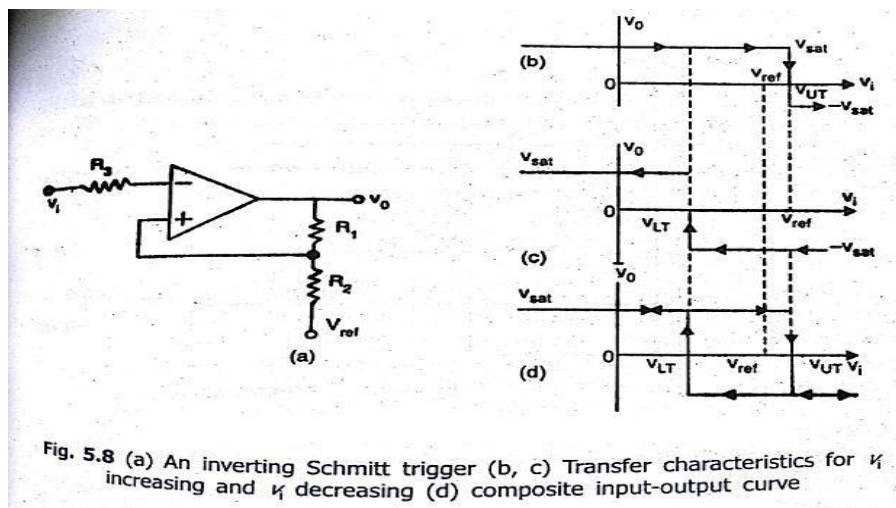

Fig. 5.8 (a) An inverting Schmitt trigger (b, c) Transfer characteristics for V_i increasing and V_i decreasing (d) composite input-output curve
- Figure 5.8 (a) shows a regenerative comparator. The circuit is also known as Schmitt trigger
- As long as V_i is less than V_{ut} , the output V_o remains constant at $+V_{sat}$. When V_i is just greater than V_{ut} , the output regeneratively switches to $-V_{sat}$ and remains at this level as long as $V_i > V_{ut}$ as shown in Figure 5.8 (b).
- The input voltage V_i must become lesser than V_{lt} in order to cause V_o to switch from $-V_{sat}$ to $+V_{sat}$. A regenerative transition takes place as shown in Figure 5.8(c) and the output V_o returns from $-V_{sat}$ to $+V_{sat}$ almost instantaneously.
- The complete transfer characteristics are shown in Figure 5.8 (d).
- The resistor R_3 in figure 5.8(a) is chosen equal to $R_1 || R_2$ to compensate for the input bias current.
- A non-inverting Schmitt trigger is obtained if V_i and V_{ref} are interchanged in figure 5.8(a).